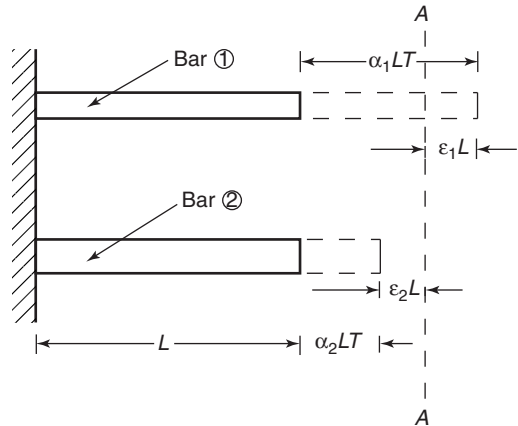

Figure 1.13 "Deflections" of compound bar
There are two unknown forces in these bars, namely F_1 and F_2 ; therefore, two simultaneous equations will be required to determine these unknown forces. The first equation can be obtained by considering the compatibility (i.e. 'deflections') of the bars, with the aid of Figure 1.13.
these two positions (i.e. at the position A-A in Figure 1.13). To achieve this, it will be necessary for bar (2) to be pulled out by a distance $\varepsilon_2 L$ and for bar (1) to be pushed in by a distance $\varepsilon_1 L$, where
From considerations of compatibility ('deflection') in Figure 1.13,